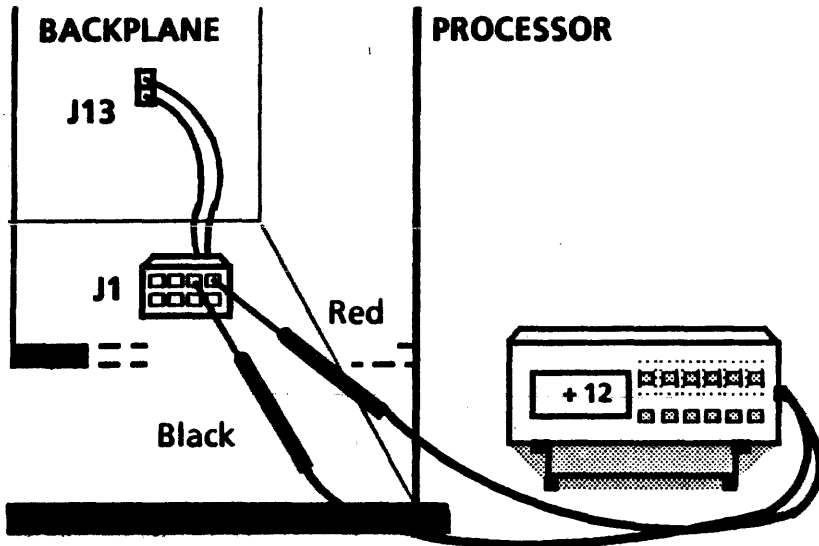

Figure 2-2 Fan Connector and Backplane
- c. Reach in through the Rigid Disk Drive cavity and connect the meter leads to the Fan Assembly connector as shown in Figure 2-2.